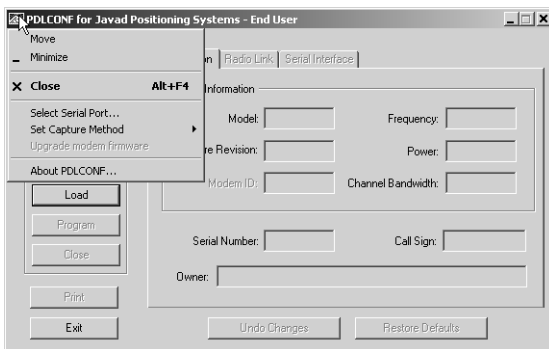

Figure 2-27. PDL Top Left Corner Icon Menu
6. Click the **Pacific Crest logo** in the upper left corner of the main screen (Figure 2-27).